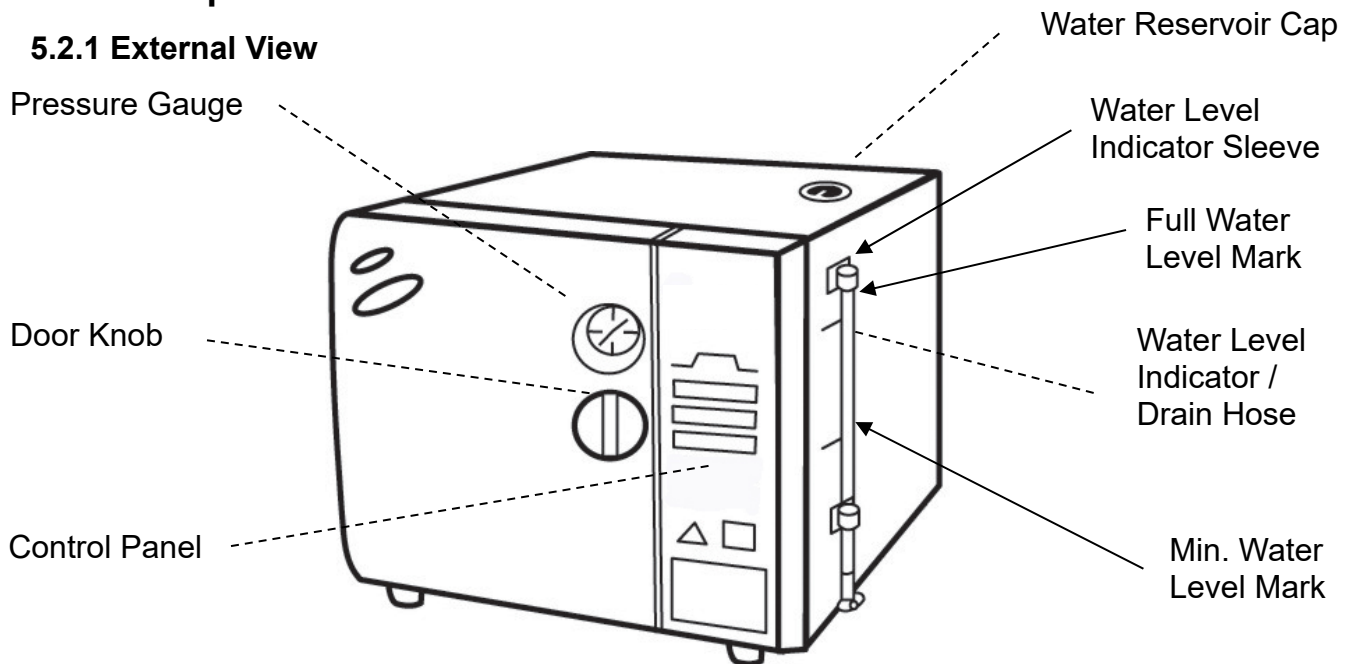

Figure 8 – Front Control Panel
**Caution:** Please fill Distilled Water Only into the unit. Take care not to overfill the yellow water level mark as Figure 3 and Figure 8.